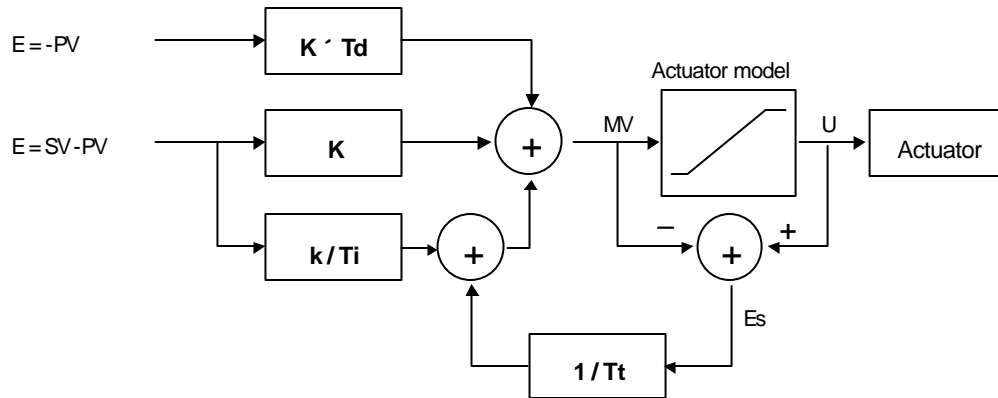
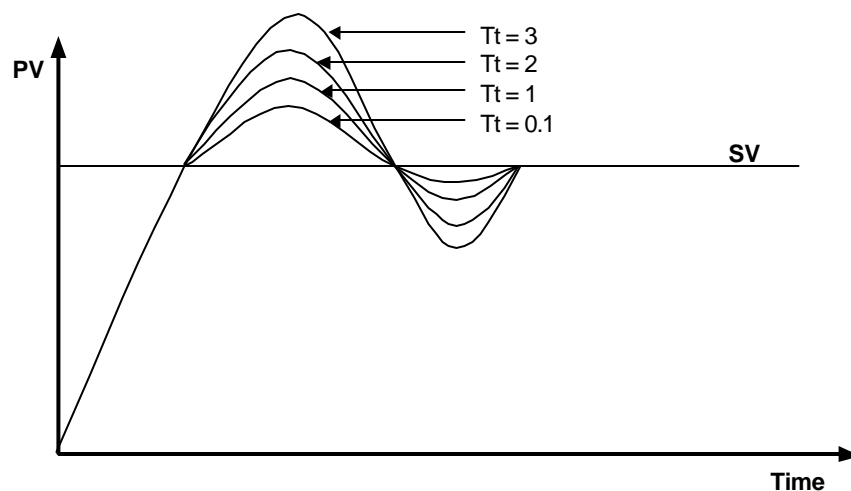

Fig. 15.14 The block diagram of anti-windup control system
Fig. 15.15 The PV output characteristics with different T_t values
There are several methods to avoid the windup of actuator. The most popular two methods are adding another feedback system to actuator, and modeling the actuator. The figure 15.14 shows the block diagram of the anti-windup control system using the model of actuator.
As shown in the figure 15.14, the anti-windup system feedback the multiplication of gain ($1/T_t$) and E_s to the input of integral term. The E_s is obtained as the difference value between actuator output (U) and manipulation value of PID controller (MV). The T_t of the feedback gain is tracking time constant, and it is in inverse proportion with the resetting speed of integral term. Smaller T_t will cancel the windup of actuator faster, but too small T_t can cause anti-windup operation even in derivation operation. The figure 15.15 shows several T_t value and PV in the PI control system.